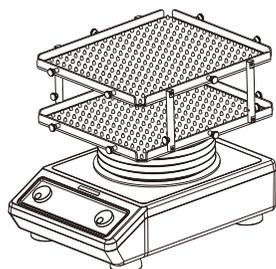

Figure 2
2. Place the two trays on to the Stacking Bars at position A1 to A4 shown in the figure 2.